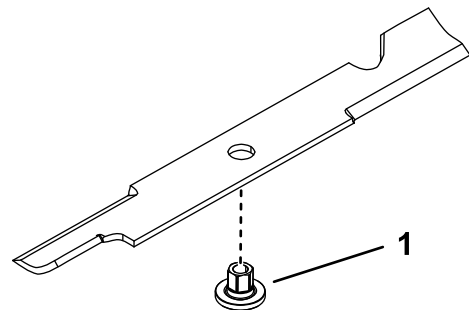

Figure 104
1. Install the bushing through the blade with the bushing flange on the bottom (grass) side of the blade (Figure 104).